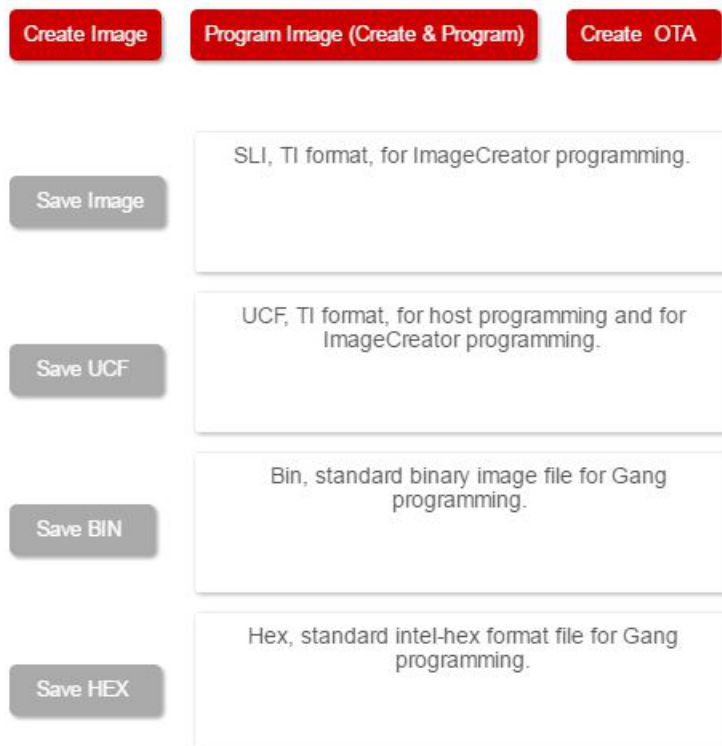

Figure 2-18. Generate Image
6. Click on Program Image (Create & Program), as shown in Figure 2-18. This step might take a minute.